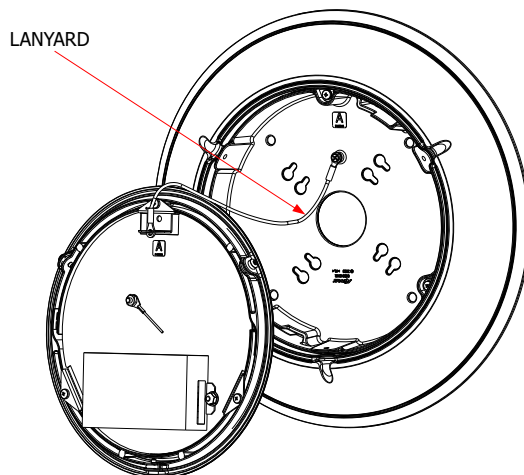

Figure 3
- To secure the trim section during wiring, it is recommended to attach the trim section to the housing section using the lanyard provided with the housing section and the lanyard bracket on the trim section. See Figure 3.